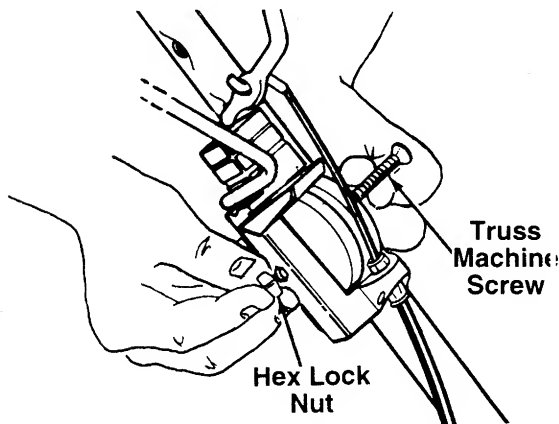

FIGURE 4.
5. Place the control box on the upper handle just below the end of the control handle as shown in figure 4. Secure with hardware removed in step one by placing hex lock nut into the indent on the inside of the control box. Screw the truss machine screw into the hex lock nut.
6. Insert long end (left side) of drive clutch control handle into the hole in the control box as shown in figure 4. Insert the short end (right side) into the hole below the blade control handle.